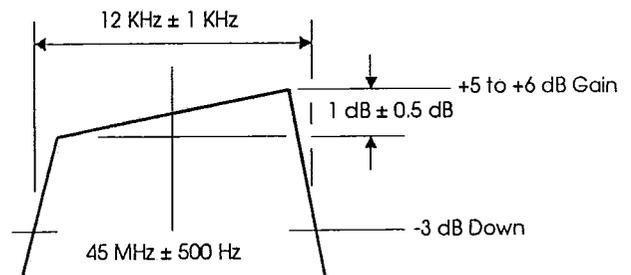

Figure 2.
9. Alternately adjust C-178, C-179, for best response as illustrated in Figure 2.